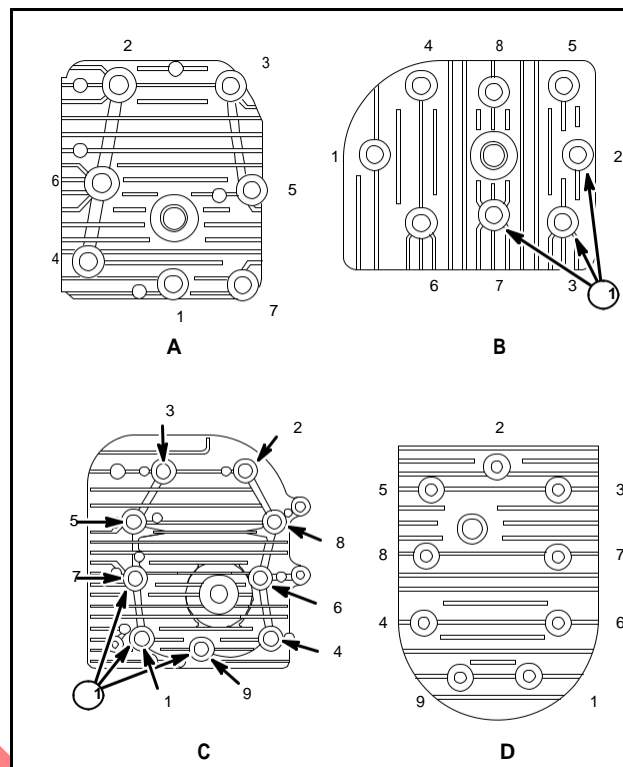

Fig. 4
Note the position of individual cylinder head bolts during removal to ensure proper reassembly. Bolts used in the wrong position may be too short and not engage enough threads, or may be too long and bottom on a fin, either breaking the fin or leaving the cylinder head loose. Position of long bolts (1), Fig. 4.
Do not use sealer of any kind on gasket. Install head bolts and snug up evenly. Then use a torque wrench to tighten head bolts to the torque specified in Table No. 2, page 11, in the sequence shown, Fig. 4.